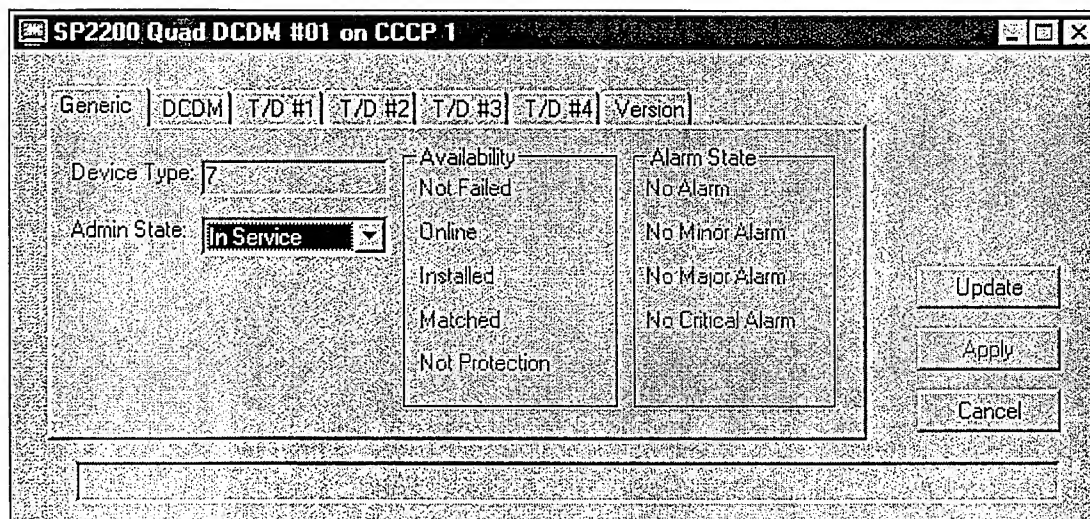

Figure 15. DCDM Window Generic tab
1. In the object tree pane, double-click on the DCDM icon to open the SP2200 Quad DCDM # window (see Figure 15).